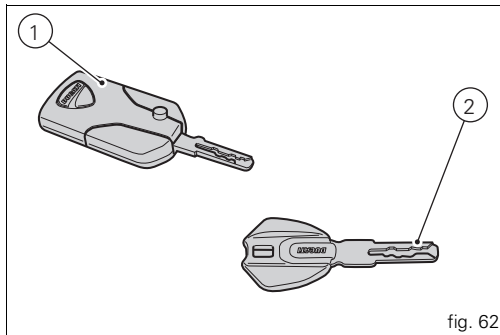

fig. 62
Keys (fig. 62)
- 1 active key (1, fig. 62)
- 1 passive key (2, fig. 62)
Do not ride with the key (1 or 2, fig. 62) inserted in the lock of the tank cap or in the seat lock as it could come out and represent a potential danger. Furthermore, if bumped, the key mechanism and the integrated circuit could be damaged.